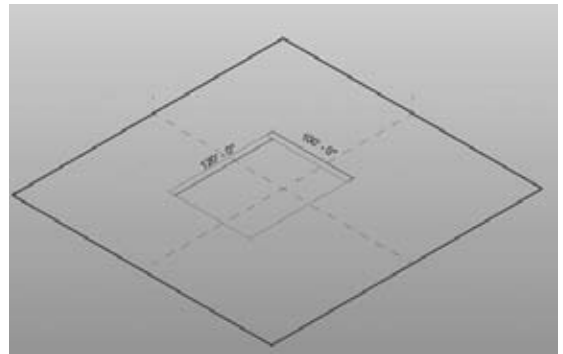

Figure 14.22
2. Using the rectangle tool from the Draw/Pick Gallery, draw a rectangle on Level 1 (Figure 14.22). This will be the default work plane, and will highlight as you draw the rectangle.